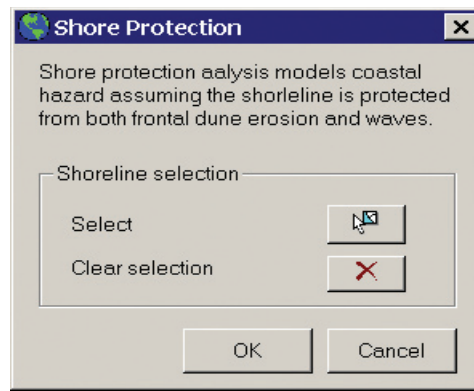

Figure 5-6 Shore protection
e. To include coastal shore protection in the analysis, click the “Shoreline selection” button and select the shoreline segment on the map (see Figure 5-6). When you have finished selecting all the segments with shore protection, click “OK.”